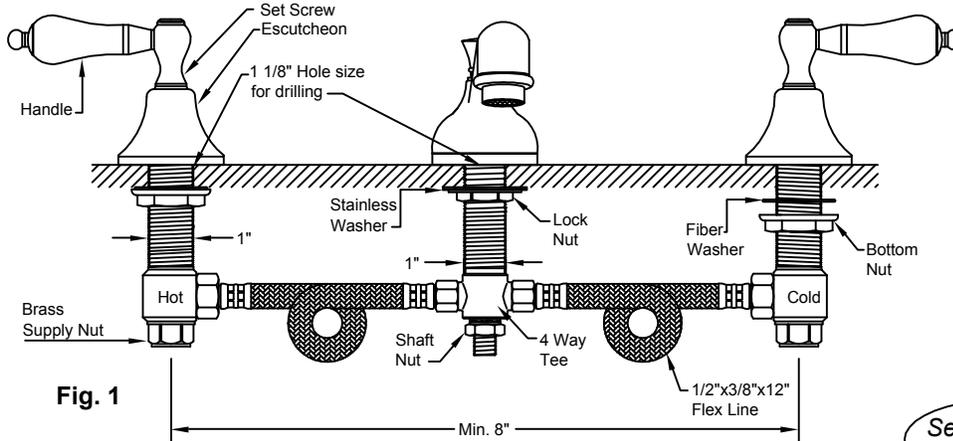

Fig. 1
- Attach flex lines between valves and spout tee. Hand tighten, then 1/4 to 1/2 turn more with wrench (not supplied). Do not overtighten. (See Fig 1.)